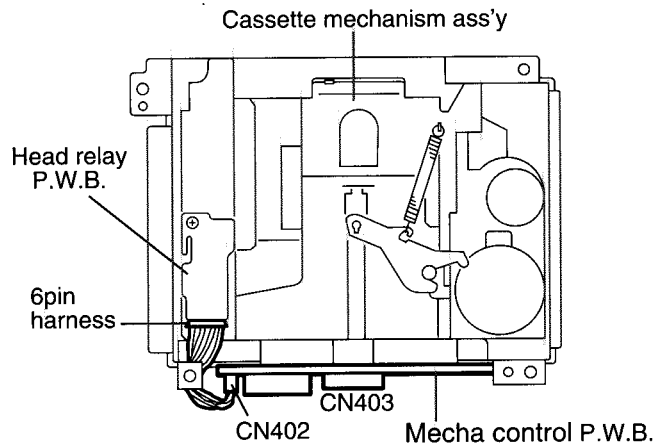

Fig.1
(See Fig.1 and 2)**
■ Removing the cassette mechanism assembly (See Fig.1 to 3)
1. Disconnect the 6pin harness from connector CN402 and the card wire from CN403 on the mecha control P.W.B. (Refer to Fig.1 and 2).